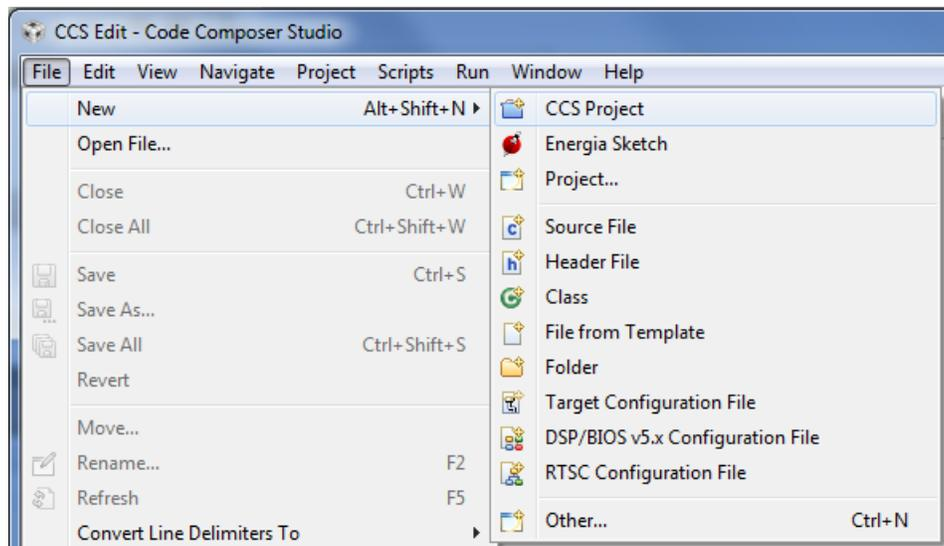

Figure 3. New CCS Project
1. From the CCS menu bar, choose **File** → **New** → **CCS Project** (see Figure 3).